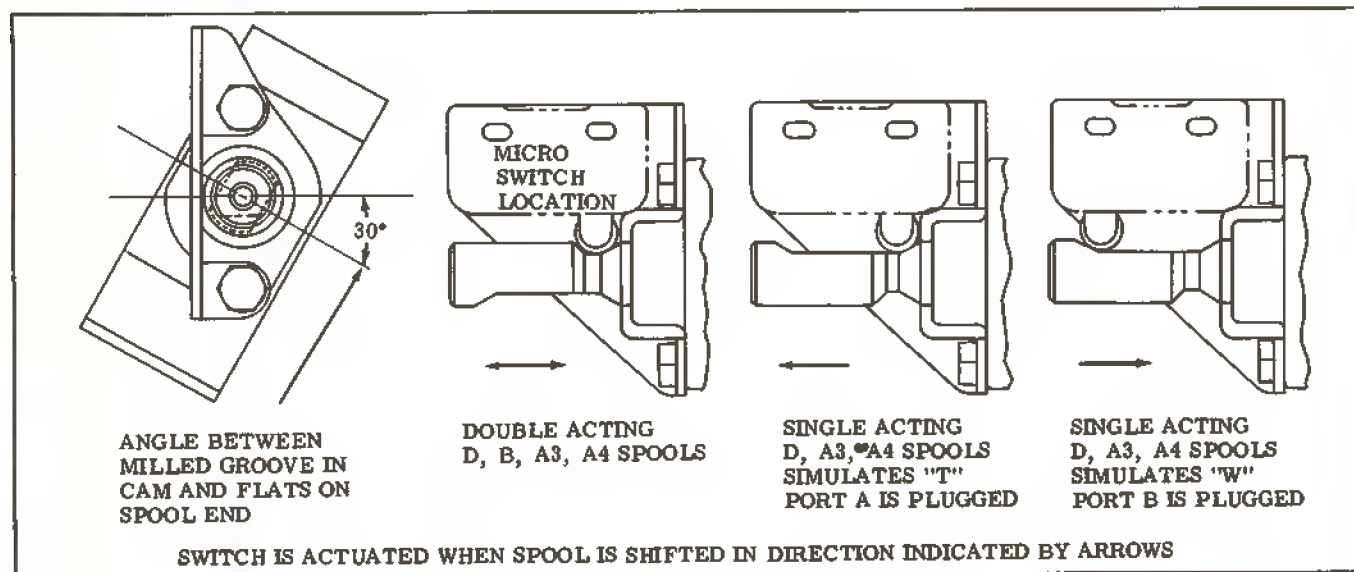

Figure 11
All D, T or W electric limit switch models are supplied with "D" spools only. "T" or "W" spool operation is accomplished by mounting the switch or rotating the spool extension as shown in Figure 11.
1. Figure 11 illustrates the correct mounting positions for the micro-switch, bracket and cam.
2. To convert a standard section to an electric switch section, the end cap screws must be removed to attach the bracket. The cam must be pressed into the spool at the correct angle with the flats on the spool end as shown in Figure 11. Secure cam in spool with a good grade of epoxy adhesive.